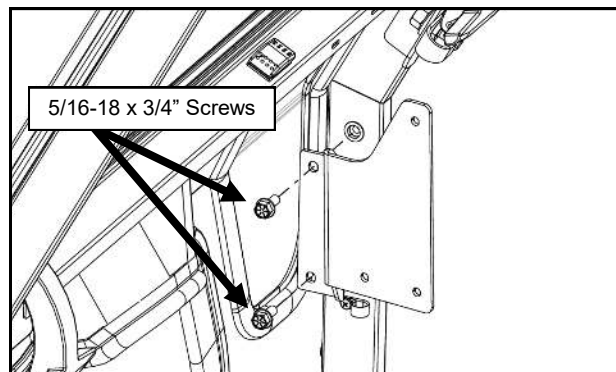

Fig. 17.1 (Install Heater Bracket to Side Frame)
**17.1** Attach the heater bracket to the right side frame. See Figure 17.1. Fully tighten hardware at this time.